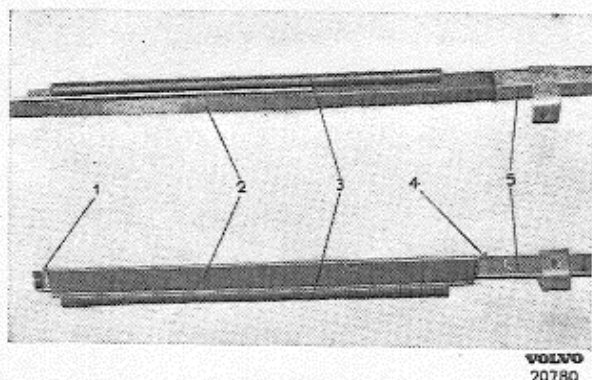

Fig. 41. Weatherstrips
6. Remove connector sleeve (7) which retains the connector to winder channel (6). Move the run channel forwards and lift up the window.
7. Release load on the tension device (9) by loosening the nuts (10) to the tension screw on the lower roller. Remove the wire and chain.
8. The upper roller (3), the lower roller with tension device (9) and the window regulator cog (12) as well as the run channels (2 and 5) are removed if required.
9. Assembly is carried out in the reverse order. Before installing the window make sure that the weatherstrips are in good condition. Worn or damaged weatherstrips should be replaced. The weatherstrip on the ventilator window in the front run channel is taken out by removing the two nails (1 and 4, Fig. 41) by pulling the retainer (2) from the channel (5). The new weatherstrip (3) is fitted so that it lies on the front run channel after which the retainer is slid on the the nails driven home.